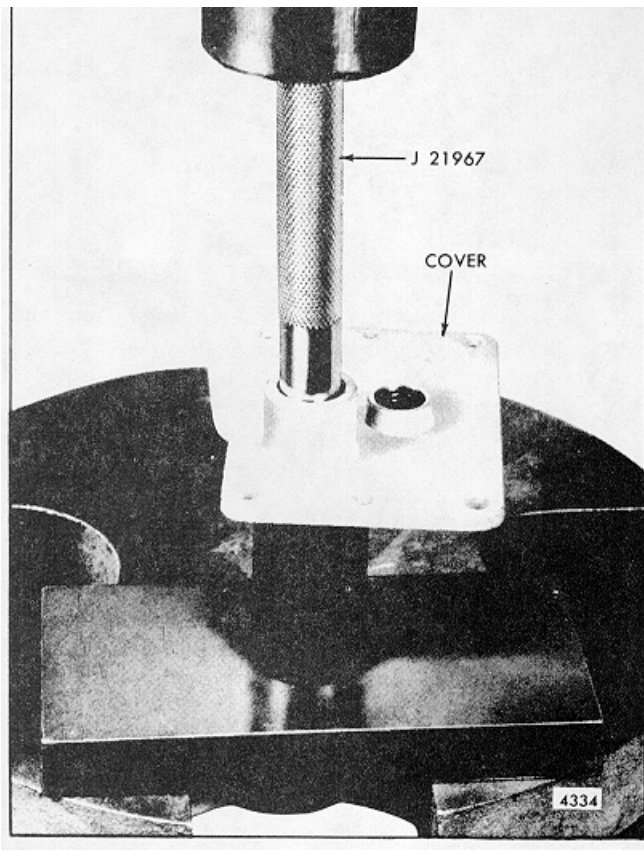

Fig. 4 - Removing Needle Bearing from Governor Cover
- g. If needle bearing removal is necessary, place the inner face of the cover over the opening in the bed of the press. Place remover J 21967 on top of the bearing and under the ram of the press; then press both bearings out of the cover (Fig. 4).